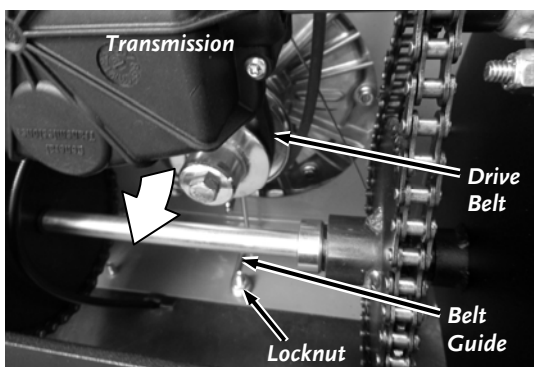

Figure 36
6. Loosen the Belt Guide Locknut using a 7/16" Wrench and rotate the Guide out of the way (Figure 36).
13. Rotate the Belt Guide into position centered behind the Engine Pulley and tighten the Locknut with a 7/16" Wrench (**Figure 36**).